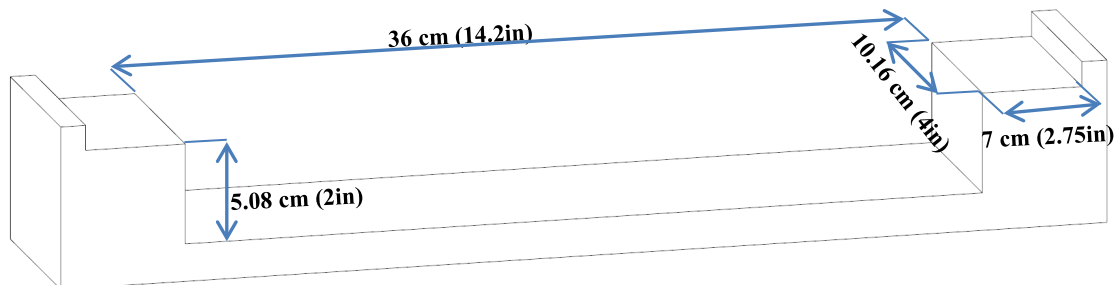

Figure 5
15. For dimensions of the foundation See Figure 5